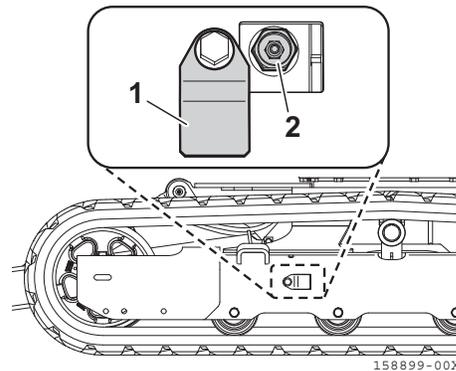

Fig. 8-14
2. Remove the cover (**Fig. 8-14, 1**) and loosen the nipple valve (**Fig. 8-14, 2**) little by little to gradually discharge the grease. Never loosen the nipple valve (**Fig. 8-14, 2**) more than one turn.